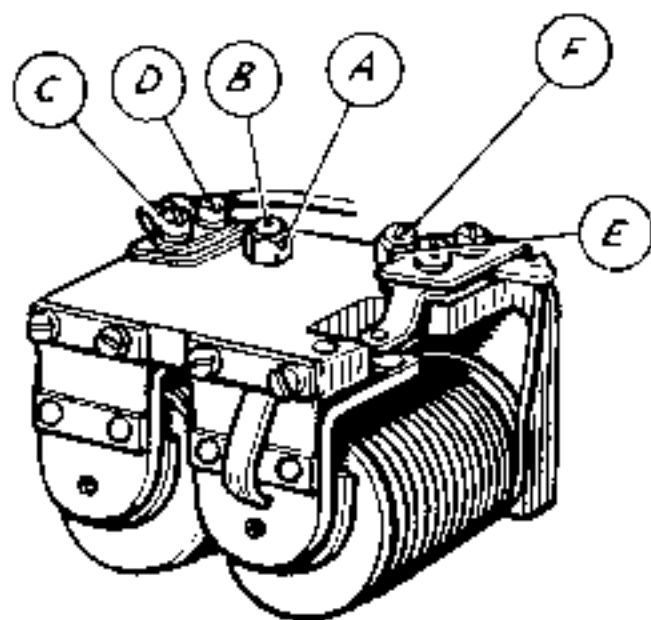

Fig. N.15
Shut off the engine, remove the control box cover, and release the locknut (A) (Fig. N.15) holding the adjusting screw (B). The screw turns in a clockwise direction to raise the setting or in an anti-clockwise direction to lower the setting. Turn the adjusting screw a fraction of a turn in the required direction and then tighten the locknut.
To render the regulator contacts accessible for cleaning slacken the screws securing the plate carrying the fixed contact. It will be necessary to slacken the upper screw (c) (Fig. N.15) a little more than the lower one (p) so that the contact plate can be swung outwards. Clean the contacts by means of fine carborundum stone or fine emery-cloth. Carefully wipe away all traces of dirt or other foreign matter. Finally, tighten the securing screws.
If the cut-out has become out of adjustment and operates at a voltage outside these limits it must be reset. To make the adjustment slacken the locknut (t) (Fig. N.15) and turn the adjusting screw (f) a fraction of a turn in a clockwise direction to raise the operating